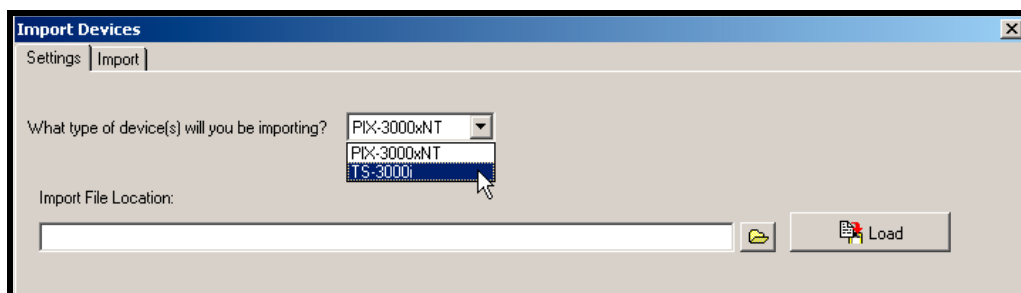

Figure 6-3: Select Device Type
- Step 2.** From the Import Devices screen select TS-3000i from the dropdown menu for the type of device to import (see *Figure 6-3*).
Step 3. From the Device screen, click on the **Import Devices**  button on the bottom, and the Import Devices screen will open to enter settings (see *Figure 6-3*). Proceed from **Step 2** from the previous procedure to complete importing the TS-3000i clock.